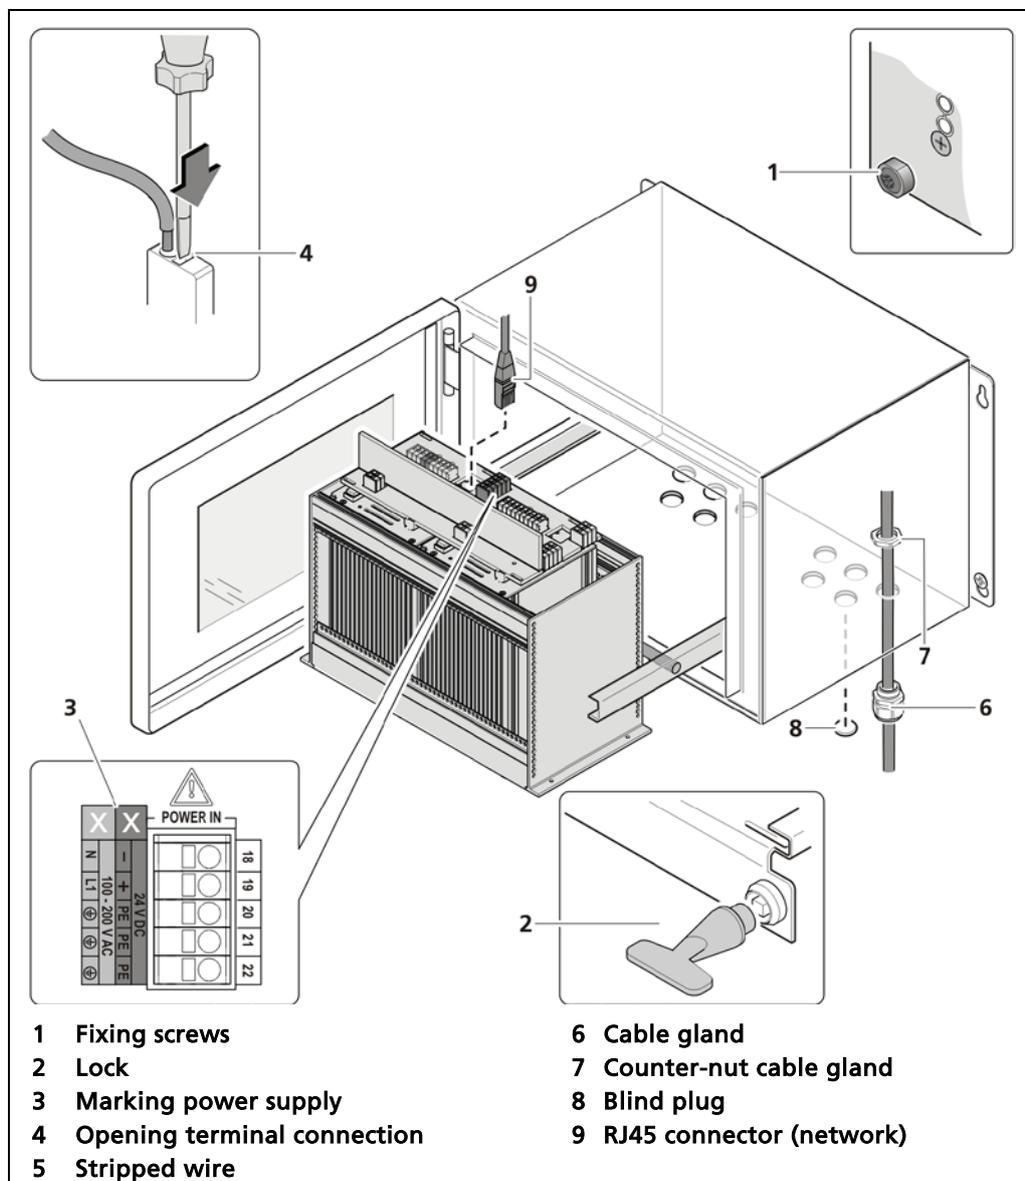

Fig. 16 Electrical connection in the wall housing (terminal panel)
1. Make sure that the fixing screws (Fig. 16, item 1) of all modules are tightened in order to prevent slipping.
2. Loosen the lock (Fig. 16, item 2) using the supplied square key and pull the subrack out.
4. Direct the lines through the cable glands (Fig. 16, item 6), through the openings in the wall housing and through the counter-nut of the cable glands (Fig. 16, item 7).
5. Screw the cable gland in place (Fig. 16, item 6) using the counter-nut (Fig. 16, item 7).
Only power within the marked range (Fig. 16, item 3) must be applied!
7. Open the terminal connection (Fig. 16, item 4) with an operating tool (slotted screwdriver) and insert the stripped wire (min. 8 mm) (Fig. 16, item 5).
8. Plug the network plug into the RJ45 socket (Fig. 16, item 9) (optional).
9. For optimum sealing and strain relief of all cable glands (Fig. 16, item 6), tighten them until the sealing insert between the cable glands and the cable closes off.